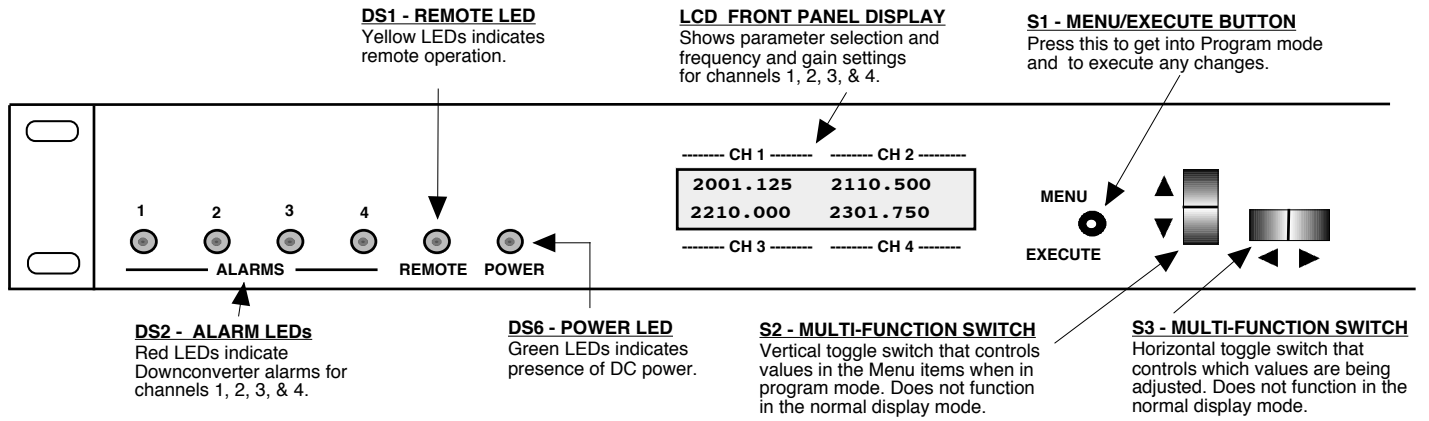

FIGURE 2.3 2416-x25 Front Panel Controls and Indicators
6. Be sure DS6 (green, DC Power, PSA, PSB) is on and DS2 (red, Alarm) is off (Figure 2.3).
1. Menu/Execute - Any change to the programming of the unit must be initiated by pressing the Menu/Execute switch and completed by pressing the Menu/Execute switch (Figure 2.3).
2. Horizontal Switch - This switch is mounted so its movement is horizontal and moves the cursor left or right (Figure 2.3).
- a. During frequency, gain changes, the vertical movement will raise or lower the number in the direction of the arrows (Figure 2.3).
Alarm indications appear on the LEDs (See figure 2.3). An alarm condition will occur if any local oscillator phase lock loop (PLL) comes out of lock. The Remote LED will light when you select the Remote mode.